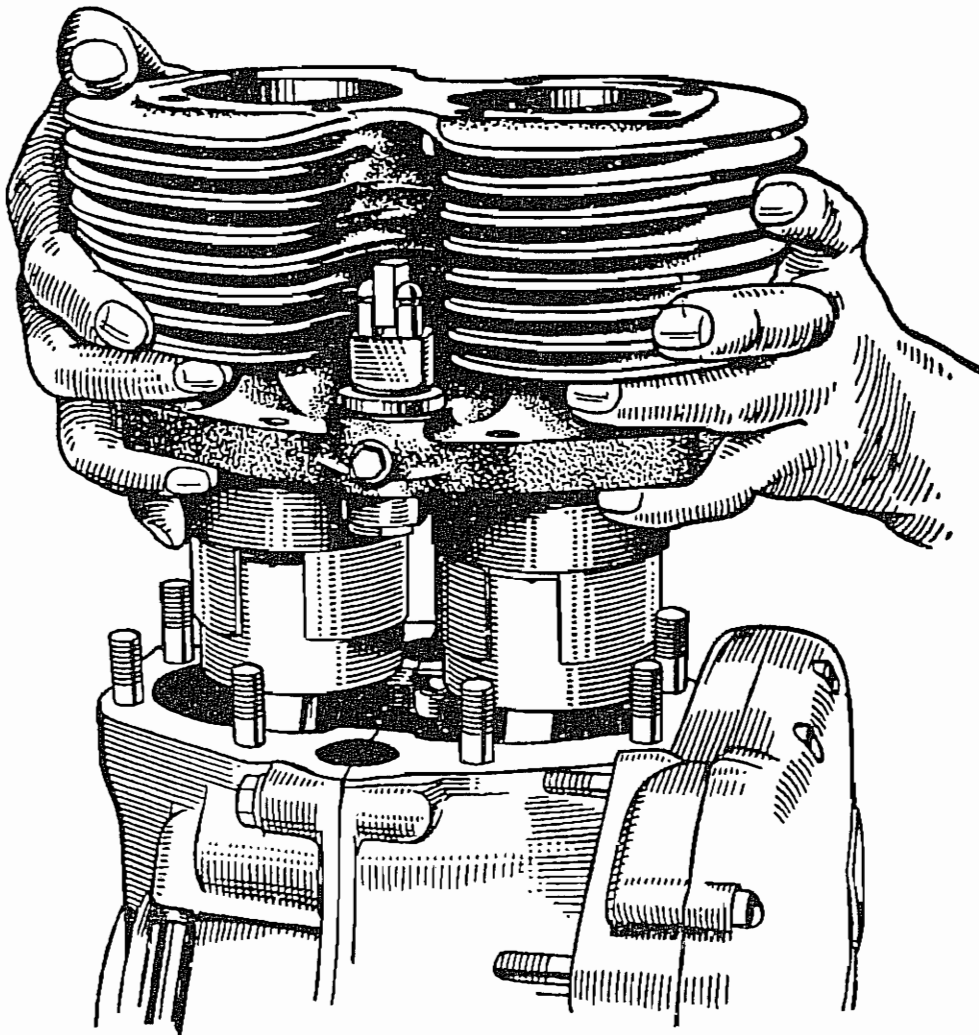

Fig. 21. FITTING THE CYLINDER BARREL
which is extremely small when compared with the damage which can result from a badly fitting circlip. Lubricate the piston rings and skirts and turn the rings so that the gaps do not coincide. Place the piston ring clip over the rings and allow the base of the pistons to rest on the forward top face of the crankcase (see Fig. 21).
**Cylinder Block.** Grease the cylinder block base washer and fit to the block. Lubricate the tappet blocks and assemble the tappets. Place a rubber wedge between the tappet stems to prevent them falling into the crankcase during assembly (see Fig. 21). Liberally oil the cylinder bores and then lower the block over the pistons until the piston rings enter the bores.